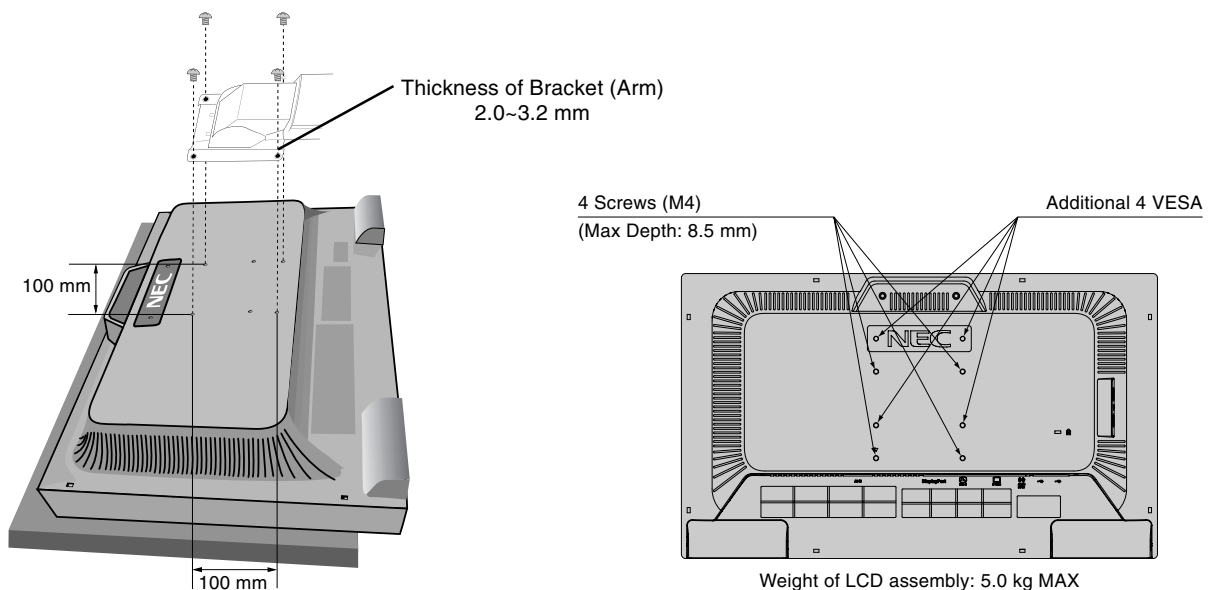

Figure F.1
2. Using the 4 screws from the stand removal, attach the arm to the monitor (**Figure F.1**).